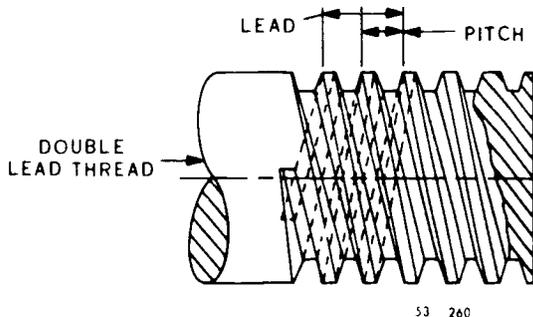

Figure 125. Double-lead thread.
*k.* Lead. Lead is the lateral distance a thread moves per revolution. On a single-lead thread, the lead and the pitch are identical; on a double-lead thread, the lead is twice the pitch; on a triple-lead thread, the lead is three times the pitch; etc. Figure 125 shows the difference between the lead and the pitch of a double-lead thread.